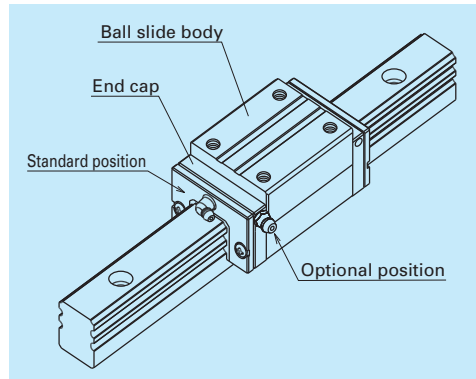

Fig. 11 Mounting position of lubrication accessories
(2) Mounting position of lubrication accessories
- The standard position for grease fittings is at the end face of the ball slide, but we can mount them on the side of the end cap as an option. (Fig. 11)